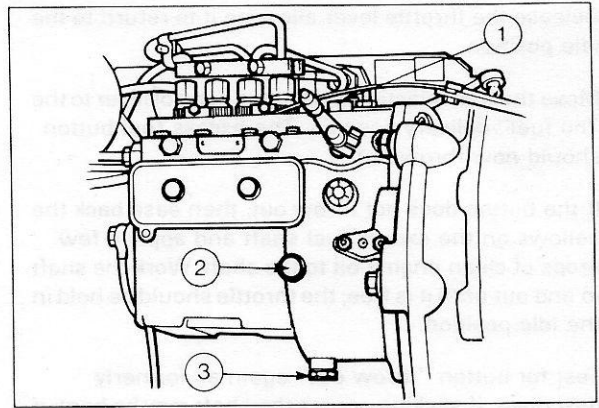

Fig. 33 - Injection Pump Oil Plugs (Class "A" Close Regulating Governing Only)
14. In the case of Class "A" close regulating governed pumps, remove the oil filler and level plugs and top up with new engine oil as necessary. Install and tighten plugs (Fig. 33).